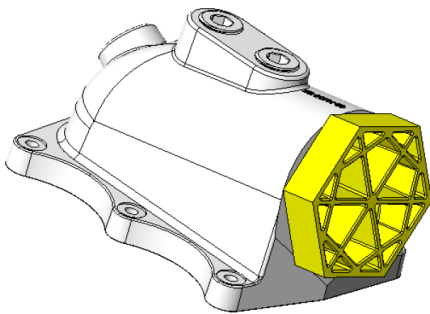

Figure 22
2. Screw the assembly into the housing, Figure 22. Check orientation is appropriate for your application. See Orientation section below.